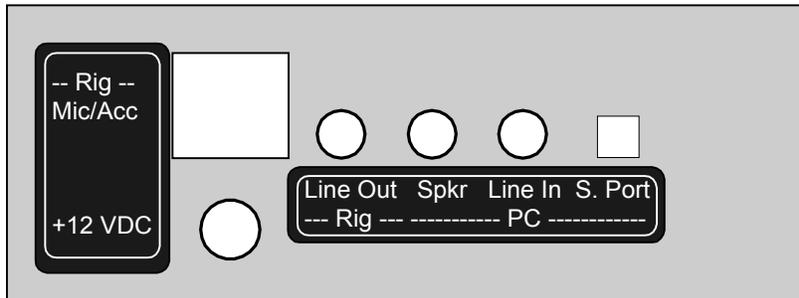

Figure 5.10 Legend Overlay Installed on Back of Enclosure Configuration -1 (Relay)
5.4.3 Legend Overlay Configuration -1 - reproduction of the legends for the back side of the enclosure as applied to the back of the enclosure is shown in figure 5.10, *Legend Overlay Installed on Back of Enclosure Configuration -1 (Relay)*. These legends should be cut along the black edges of the periphery with no white showing. Apply adhesive to the back of each legend. Align the Mic/ACC & +12v legend to the left of the RJ45 and DC Power jacks. Align the Line Out ... S.Port legend below the knurled nuts of the jacks. Smooth the legends when they are in place.